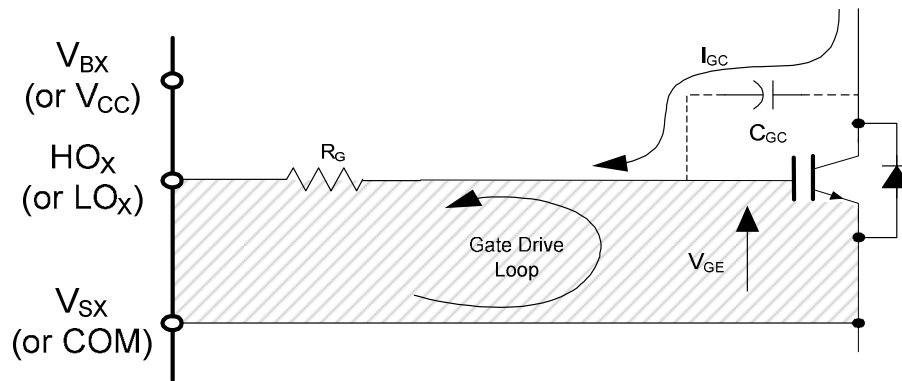

Figure 17: Antenna Loops
**Gate Drive Loops:** Current loops behave like antennas and are able to receive and transmit EM noise (see Figure 17). In order to reduce the EM coupling and improve the power switch turn on/off performance, the gate drive loops must be reduced as much as possible. Moreover, current can be injected inside the gate drive loop via the IGBT collector-to-gate parasitic capacitance. The parasitic auto-inductance of the gate loop contributes to developing a voltage across the gate-emitter, thus increasing the possibility of a self turn-on effect.